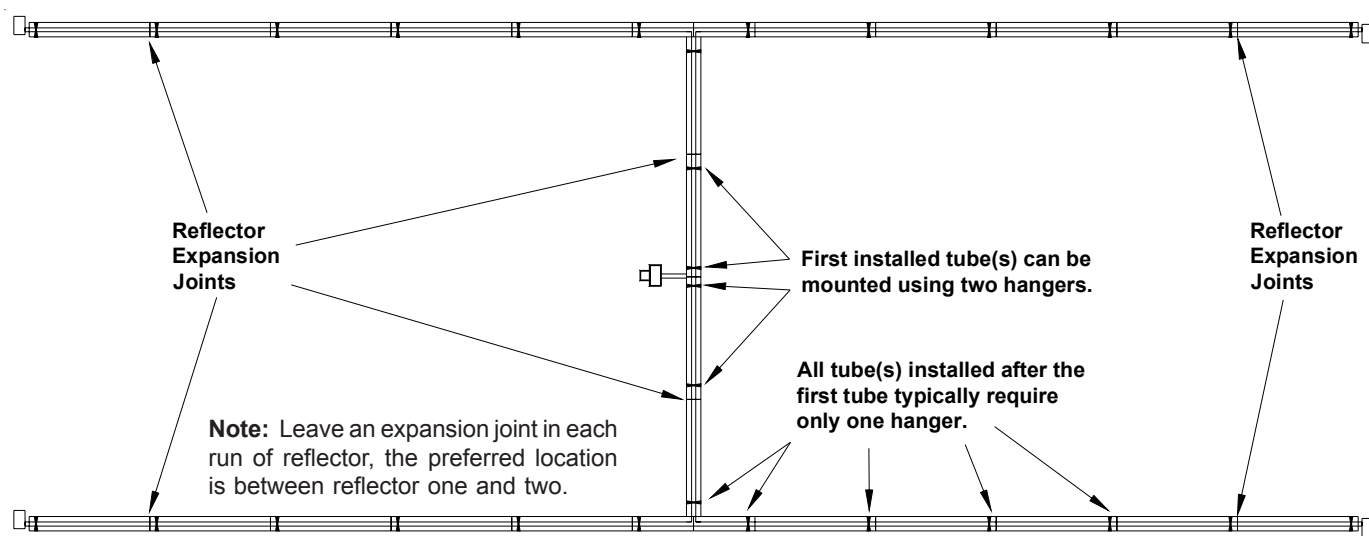

Figure 3-13
- 2) It may be easiest to start by mounting the first tube with two (2) hangers spaced approximately 8 to 9 feet apart. Every 10 foot tube thereafter should only need one (1) hanger spaced at approximately 8 to 9 feet apart. Refer to figure 3-13 on page 18 for an example of hanger placement.